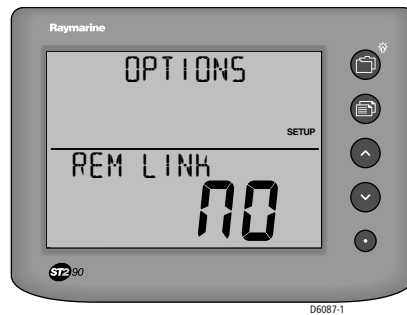

Figure 3-13: Link keypad
5. Press the  button to move to the REM LINK page (see *Figure 3-13*). This enables you to define which Remote Keypad(s) you want to use to control the instrument. If a Remote Keypad is not already allocated, n0 is displayed.